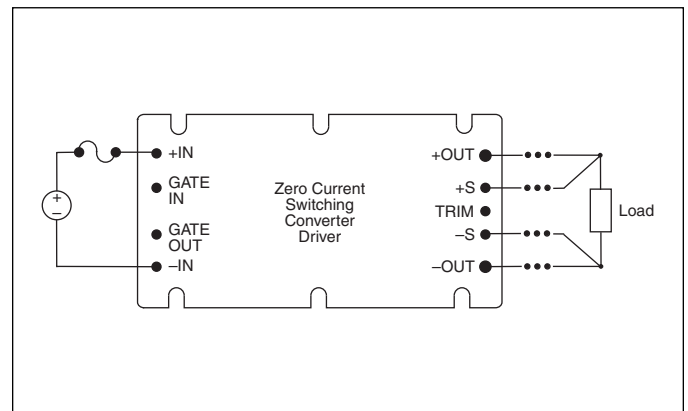

Figure 7–4 — Remote sensing
**Parallel Boost.** (Figure 7–5) U.S. Patent #4,648,020 — other patents pending. To retain accurate power sharing between a Driver and (n) number of Boosters, provide adequate input and output power bussing. This applies to VI-/MI-200 and MegaMod / MI-MegaMod Family modules. See Module Do's and Don'ts for recommended external components. (Section 3)